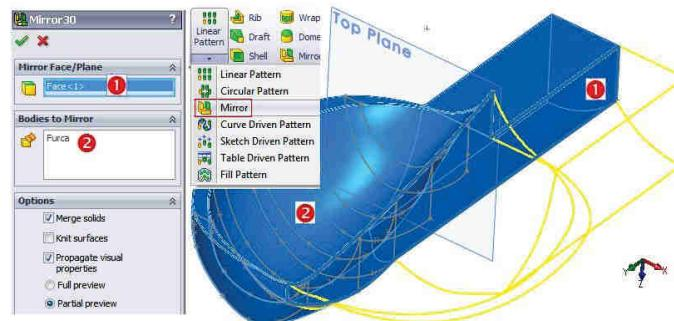

Fig. 3.16
**19 Oglindire geometrie:** comanda Mirror - Fig. 3.16 – Mirror Face **1** / Bodies to Mirror **2** / .
**19 How to mirror of the geometry:** the Mirror command - Fig. 3.16 – Mirror Face **1** / Bodies to Mirror **2** / .